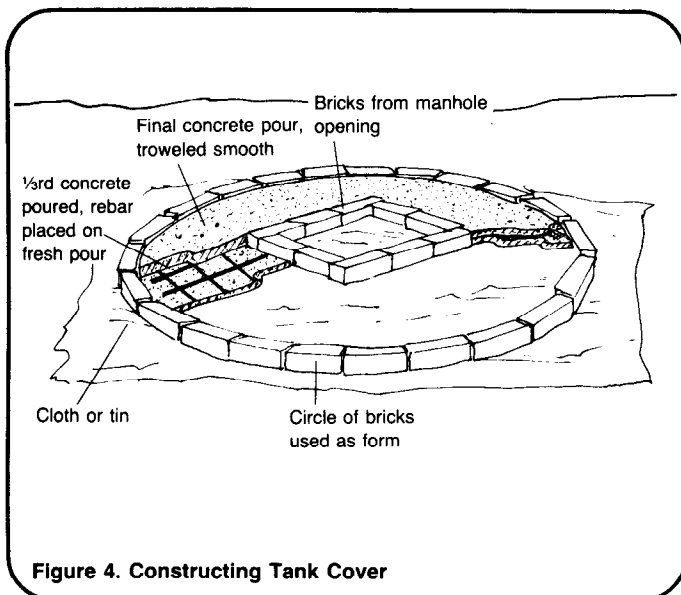

Figure 4. Constructing Tank Cover
2. Prepare a cover for the tank. A reinforced cover should be made using scrap wire, cement and sand. Mark out a circle on the ground which represents the size of the cover and place bricks around the outside as shown in Figure 4. Place bricks or wood in a square pattern near the middle to construct an access hole for tank maintenance. Lay down paper or plastic on the ground to prevent the cement from sticking. Pour in the 1:3 mixture to cover the bottom, placing scrap strips of wire in the mold as shown. Finally finish the cover by pouring in the concrete. Let it cure for 10 days. Sprinkle water on the cover during the curing process to prevent the formation of cracks, and to allow the cover to gain strength.